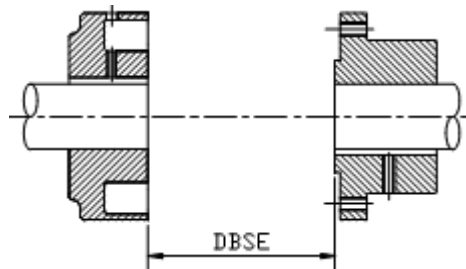

Fig.3.2
- In case of spacer type of couplings, mount the hubs by maintaining DBSE. Refer fig.3.2.